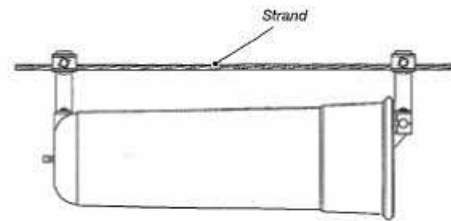

Figure 13 - Aerial Mounting of LG250
19.01 Using the Universal Offset Hanger (OHK) bracket, the installed closure may be installed as shown in **Figure 13 – Aerial Mounting of LG150**.